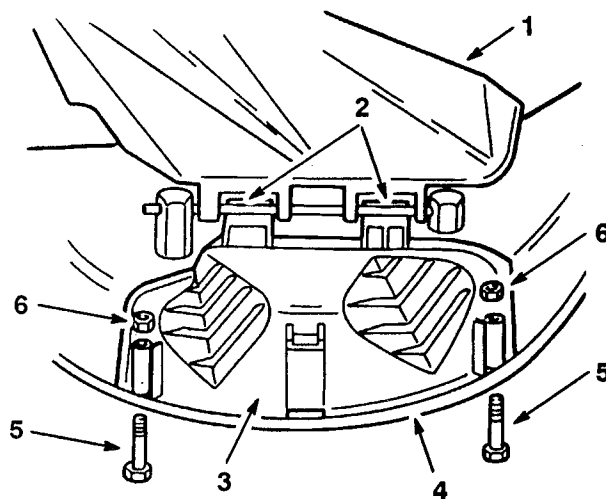

Figure 11
1. Lift the grass deflector and slide the tabs on top of the discharge cover under the grass deflector retaining rod. Rotate the discharge cover down over the opening, and onto the lower lip of the mower (Fig. 11).
2. Secure the discharge cover to the lower lip of the mower with bolts and nuts (Fig. 11).